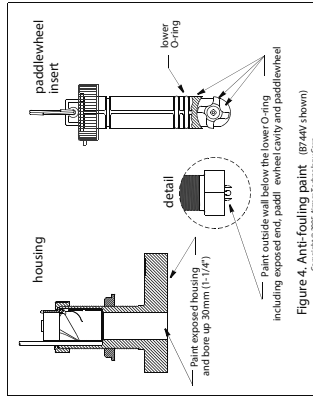

Figure 4. Anti-fouling paint (B744V/VL shown)
- B744V/VL** —Paint the following surfaces (Figure 4).